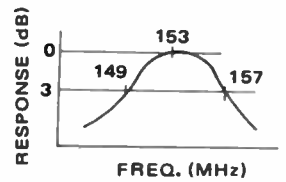

FIGURE 7. VHF Hi
- Step 3: Adjust T1, T2 and T3 in RF section for maximum output and best curve symmetry as shown in Figure 7.